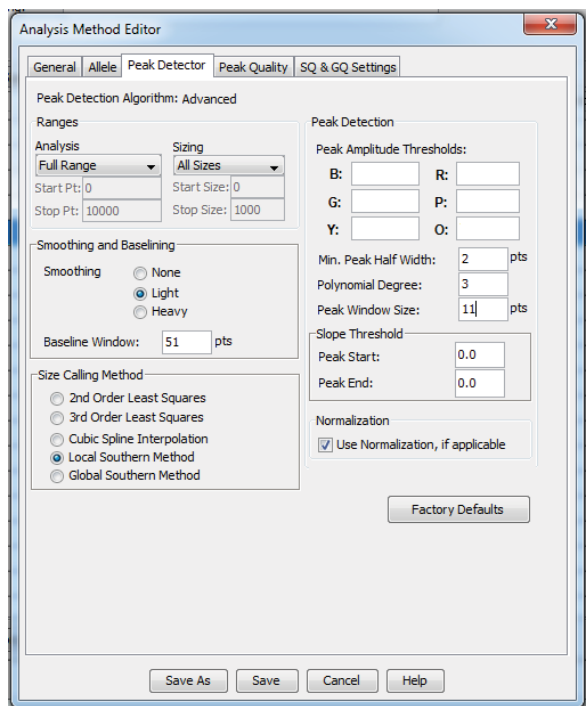

Figure 17. The GeneMapper® ID-X Peak Detector tab.
10. Select the Peak Detector tab (Figure 17). You will need to optimize these settings. In-house validation should be performed.
9. Select the Peak Detector tab (Figure 17). You will need to optimize these settings. In-house validation should be performed.